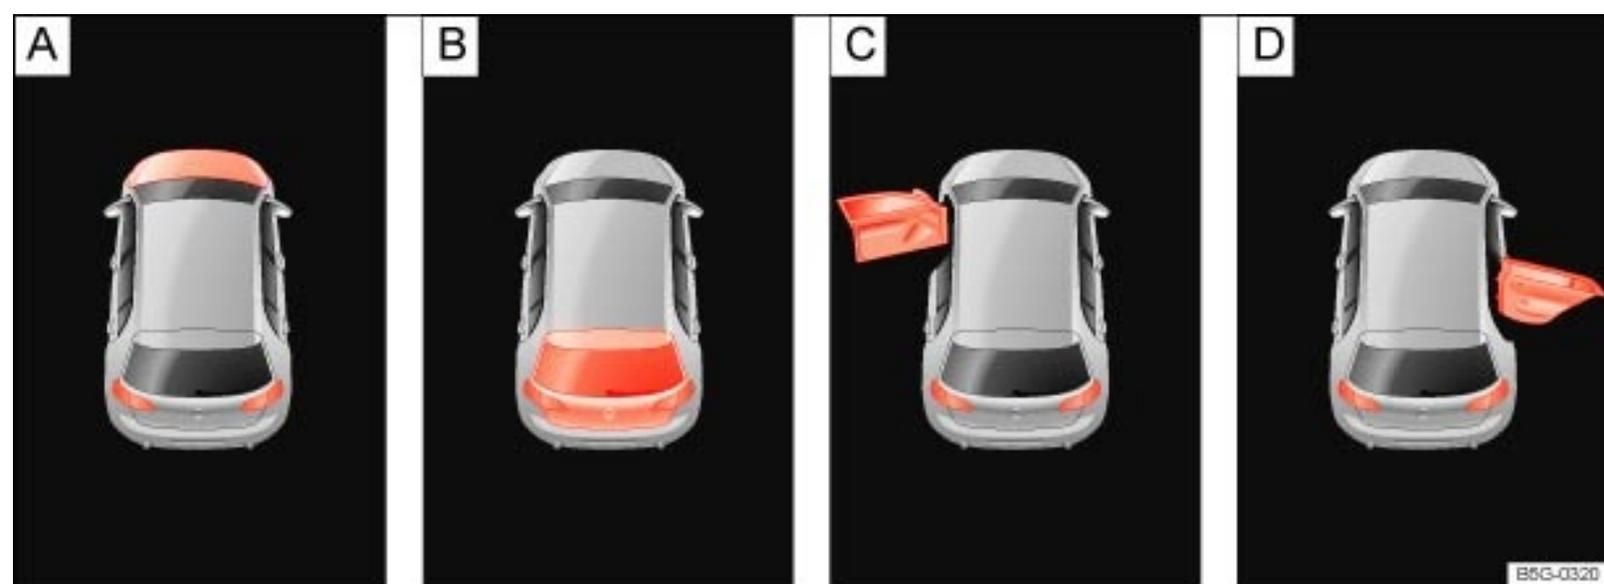

Fig. 11 In the instrument cluster display: : Open engine hood, : Open rear hatch, : Open front driver side door, : Open rear passenger side door.
- Open doors, engine hood, or rear hatch → Fig. 11